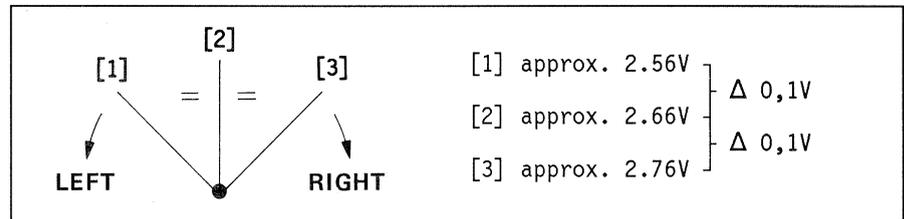

Fig. 15 Shuttle deflection voltag
- Turn the SHUTTLE wheel to the right. As soon as the tape moves read out the voltage and note the value ([3] in fig. 15)
- Turn the SHUTTLE wheel to the left. As soon as the tape moves read out the voltage and note the value ([1] in fig. 15)
- The quiescent position should be in the middle [2], Fig. 15.